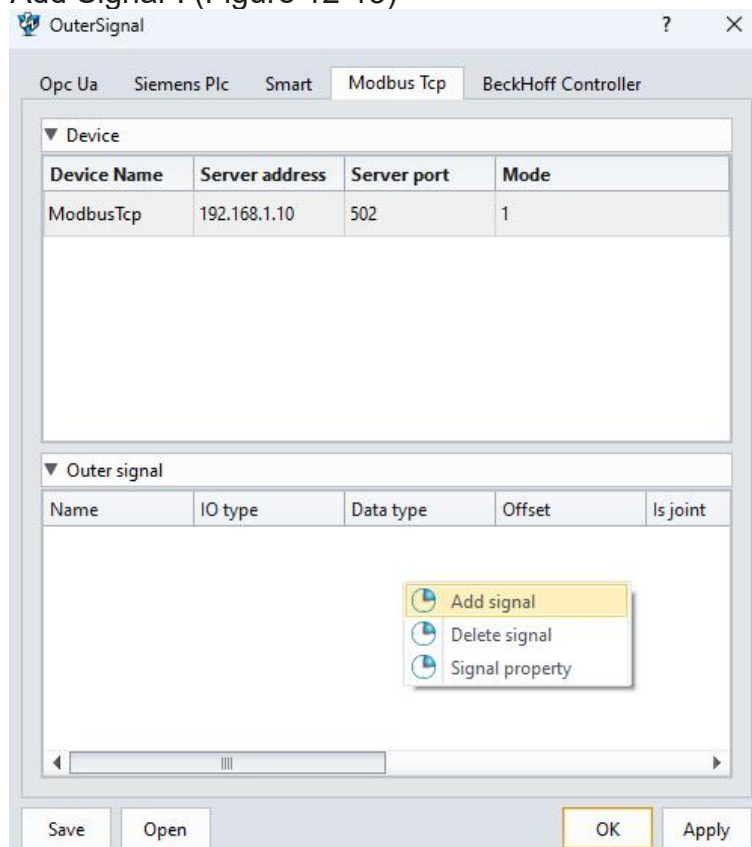

Figure 12-13: Add signal
- Under "Modbus Tcp", right-click the blank box under "Outer Signal" and select "Add Signal". (Figure 12-13)